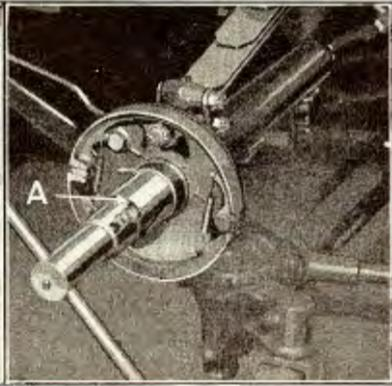

Fig. 353
- 634** Withdraw outer roller bearing sleeve with a sleeve puller (See "A" Fig. 353).